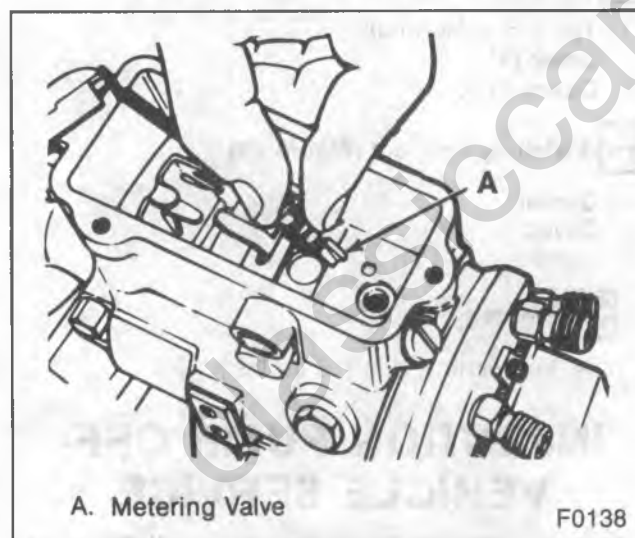

Figure 28—Metering Valve
3. Metering valve (figure 28).
10. Metering valve (figure 28).